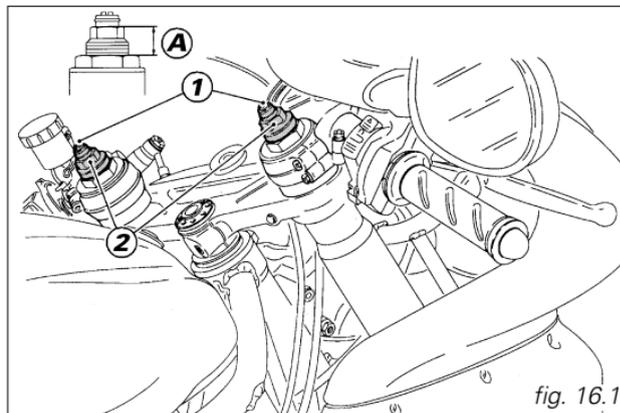

fig. 16.1
- 1) (fig. 16.1) to adjust rebound damping;
- 2) (fig. 16.1) to adjust inner springs preload;
Height (A, fig. 16.1) determines preload and may vary from 25/0.98 to 10 mm/0.39 in.